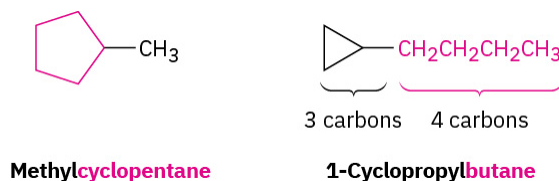

Figure 20.4f. Alkyl substituted cycloalkanes methylcyclopentane and 1-cyclopropylbutane. (credit: *Organic Chemistry (OpenStax)*, CC BY-NC-SA 4.0)
1. Find the parent. Count the number of carbon atoms in the ring and the number in the largest substituent. If the number of carbon atoms in the ring is equal to or greater than the number in the substituent, the compound is named as an alkyl-substituted cycloalkane. If the number of carbon atoms in the largest substituent is greater than the number in the ring, the compound is named as a cycloalkyl-substituted alkane. Refer to Figure 20.4f. for examples of substituted cycloalkanes.